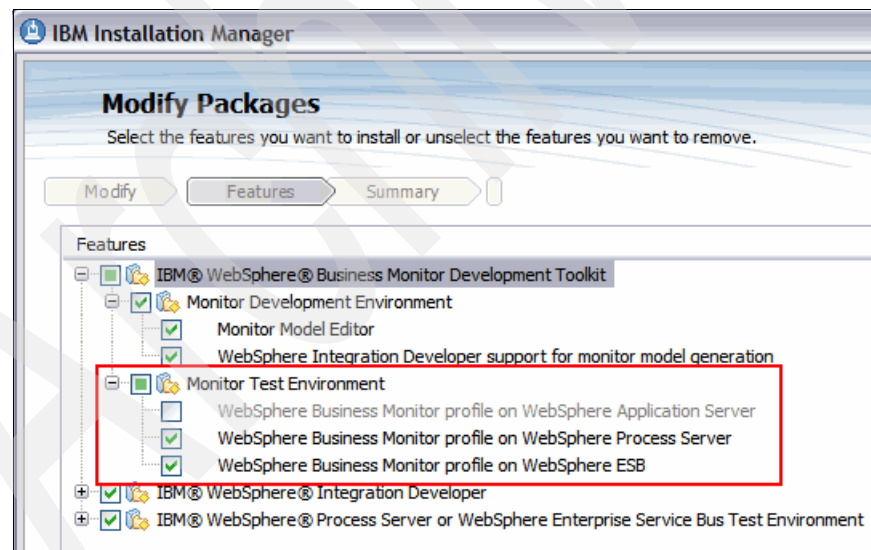

Figure 3-8 Modified Packages
4. In the next panel (Figure 3-8 on page 67), choose either of the following options: